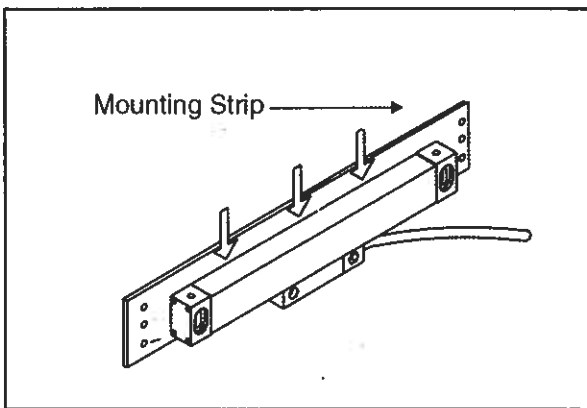

Figure 5. Mounting strip.
3. In cases where machined flat surfaces are not available, an mounting strip or strip should be used to provide a flat surface for the installation. The mounting strip, shown in **Figure 5**, must be as short as possible to provide a rigid surface.